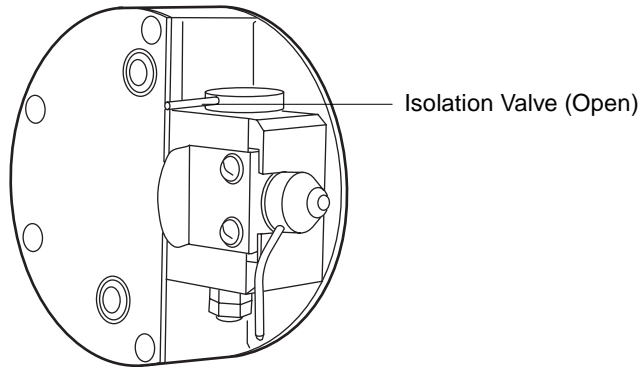

Figure 5-3 Isolation Valve
3. Open the vacuum system isolation valve (Figure 5-3).